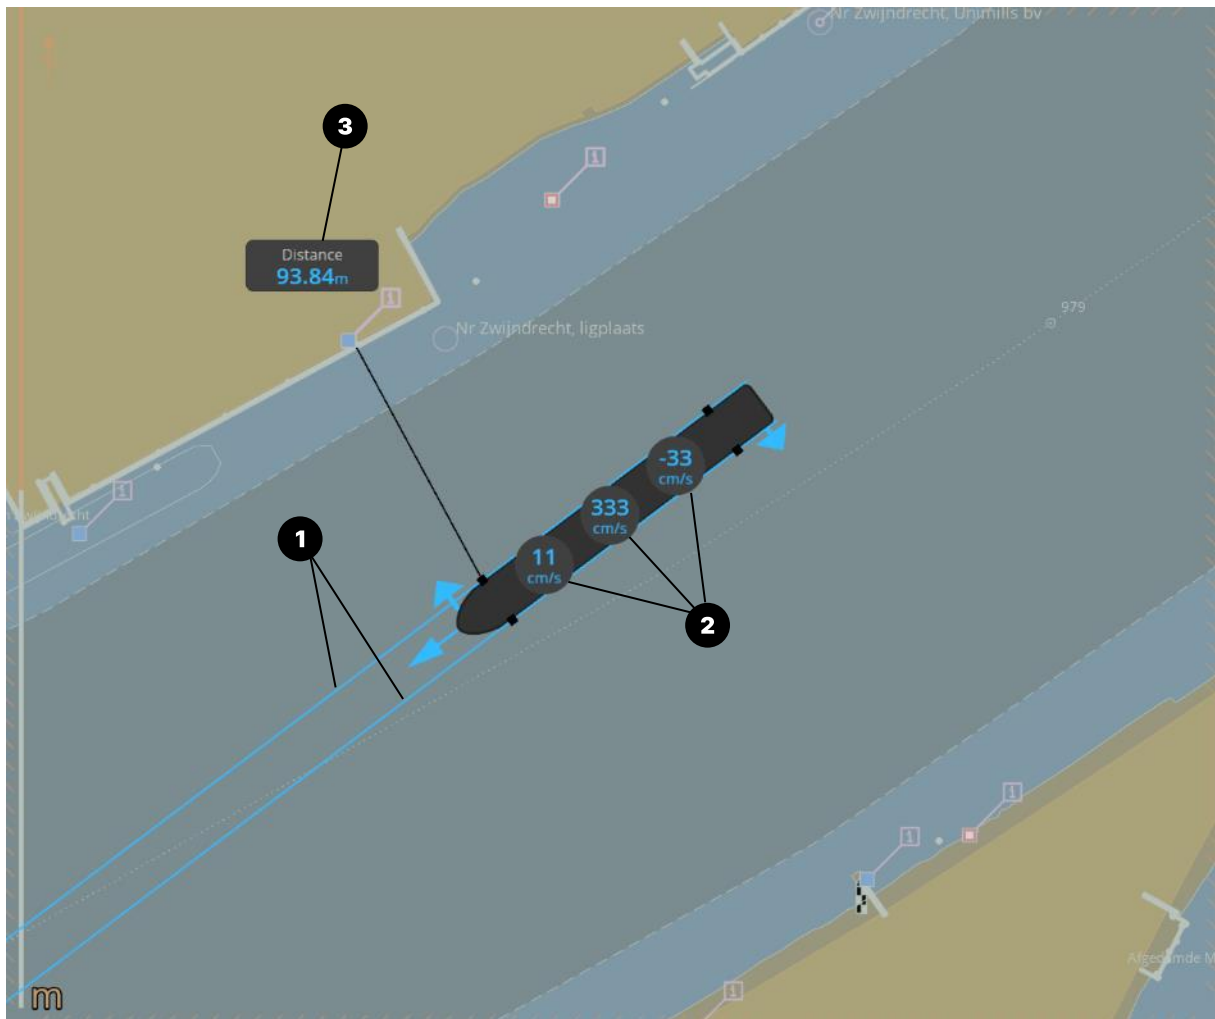

Figure 8: AlphaMINDS Docking application > Main area > Lock Approach mode example
- **Alignment lines;** a layer that shows two lines straight ahead and in line with the vessel. It can be used, for example, when approaching a lock or narrow channel to see if the vessel is straight ahead and properly aligned. See Figure 8 for an example.
Figure 8 shows the following layers: (1) Alignment lines, (2) Speed information and (3) Distance information.
<p>LAYERS – ALIGNMENT LINES</p> 	<p>Show Lines:</p> <ul style="list-style-type: none"> - Auto (alignment lines will be shown when in Lock Approach mode (see Figure 8 on page 38)) - On - Off